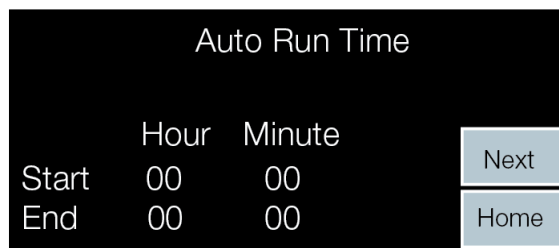

Figure 3. Auto Run Time Screen
Touch the **Setup** button on the Home screen to begin the FCC setup procedure and display the Auto Run Time screen (see Figure 3).
1. Touch the **Setup** button on the Home screen to display the Auto Run Time screen (see Figure 3).